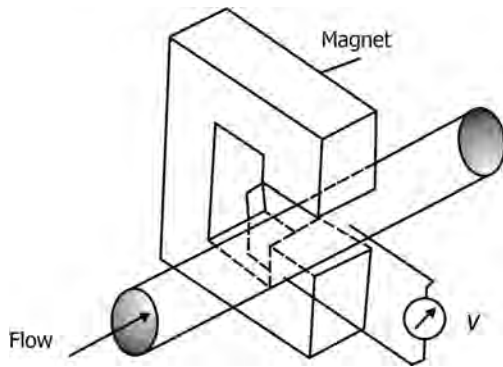

FIGURE 4.26 Elements of an electromagnetic flow meter.
- Figure 4.26 shows the elements of an electronic flow meter.